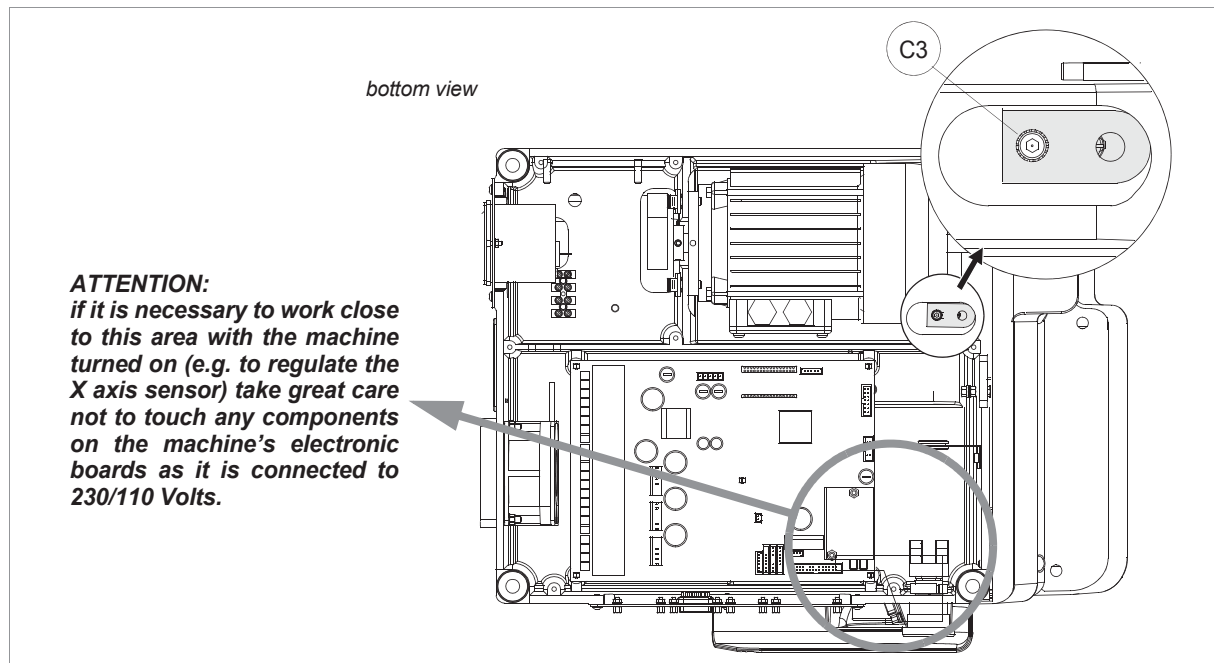

Fig. 120
- loosen the (C3) screw (fig. 120) that secures the sensor support plate. Manually move the sensor up until the display's description goes from OFF to ON.